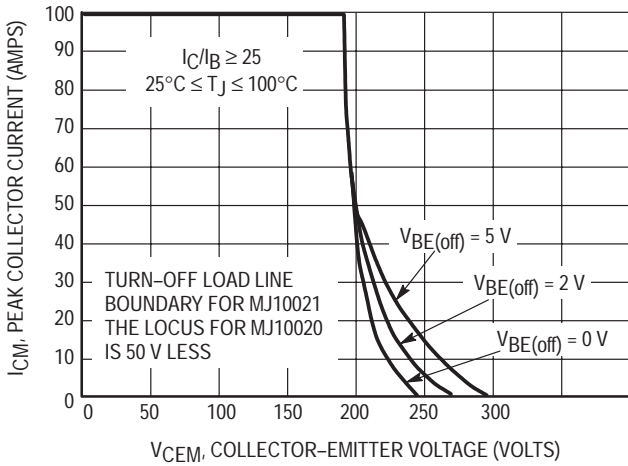

Figure 14. Maximum RBSOA, Reverse Bias Safe Operating Area
* Adjust -V such that V_{BE(off)} = 5 V except as required for RBSOA (Figure 14).
For Inductive loads, high voltage and high current must be sustained simultaneously during turn-off, in most cases, with the base to emitter junction reverse biased. Under these conditions the collector voltage must be held to a safe level at or below a specific value of collector current. This can be accomplished by several means such as active clamping, RC snubbing, load line shaping, etc. The safe level for these devices is specified as Reverse Bias Safe Operating Area and represents the voltage-current condition allowable during reverse biased turn-off. This rating is verified under clamped conditions so that the device is never subjected to an avalanche mode. Figure 14 gives the RBSOA characteristics.